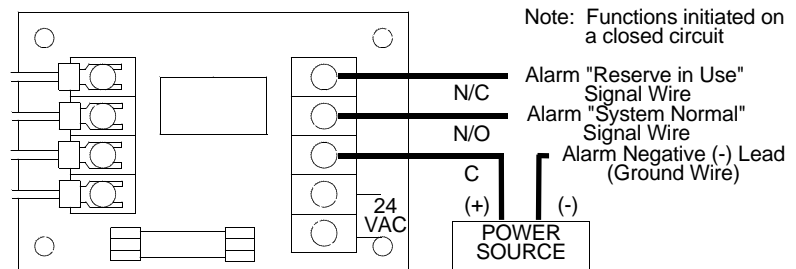

FIGURE 11
1. Connect the ground wire from the alarm to the negative (-) connection at the power source. (Figure 11)